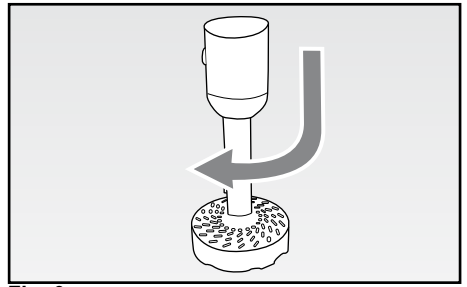

Fig. 3
- Mount the fitting (I) onto the potato masher (L): put the two parts close, by aligning the symbol of “open lock” on the potato masher and rotate the fitting clockwise until it clicks in place (Fig. 3).